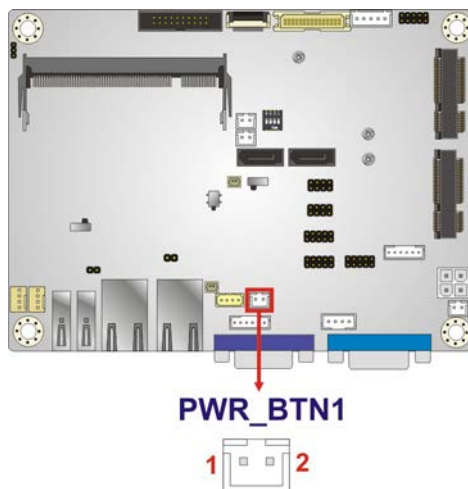

Figure 3-16: Power Button Connector Location
- CN Location:** See **Figure 3-16**